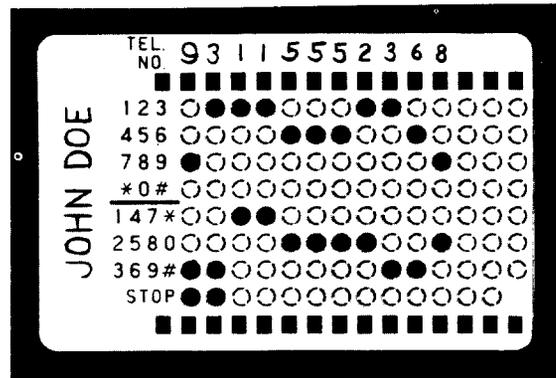

Fig. 8—Card Coded for Access Code (9), Stop, Area Code (311), and 7-Digit Telephone Number
- (6) Do not punch STOP following the last digit.
- (7) To prepare a card for dialing an access code, punch out the appropriate digit in column 1 (Fig. 8). If a second dial tone is required punch out STOP in column 2.
- (8) For DDD calling, punch out the access code, if required, area code, and the complete telephone number (Fig. 8).